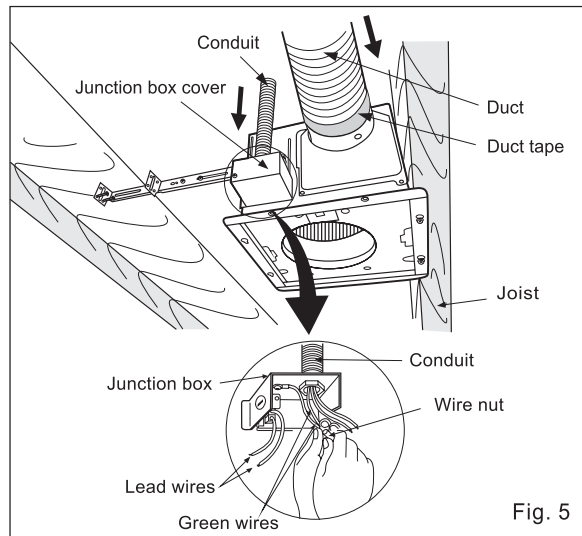

Fig. 5
5. Remove junction box cover and secure conduit or stress relief to junction box knock-out hole. (Fig. 5)